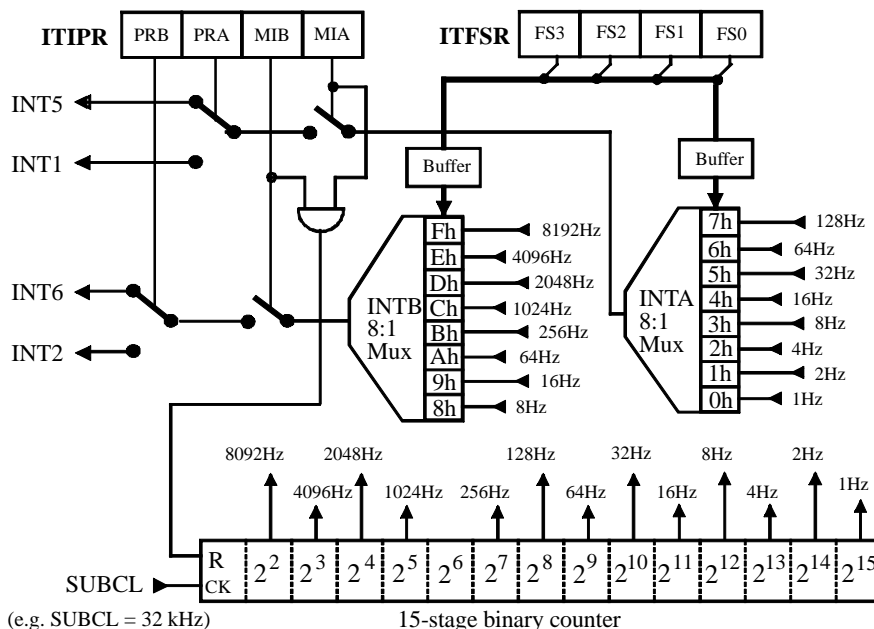

Figure 25. Interval timers / prescaler
10) and consists of a 15-stage binary divider and two programmable multiplexers for selecting the appropriate interrupt frequencies for each interrupt source (see figure 25). Each multiplexer is completely independent and is controlled by the common Interval Timer Frequency Select Register (ITFSR). Buffer registers store the respective frequency select codes and ensure complete programming independence of each interrupt channel.